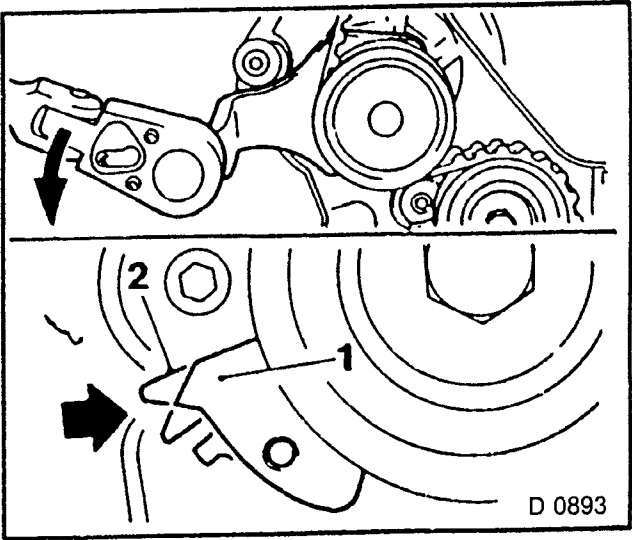

Fig. 31
1. Loosen toothed belt by turning water pump with KM-421-A in illustrated direction until indicator (1) and notch on tension roller support plate (2) align. See Fig. 31.